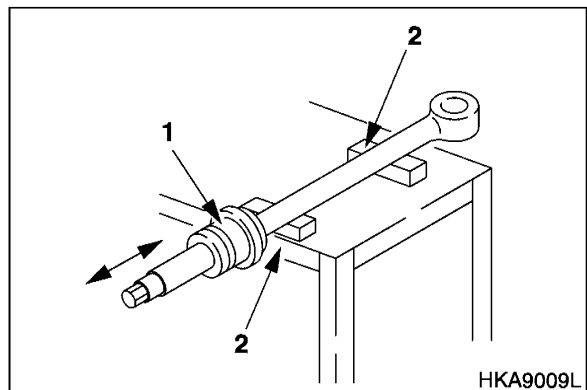

Figure 12
8. Lay the piston rod assembly on the work bench on top of wooden blocks (2, Figure 12).